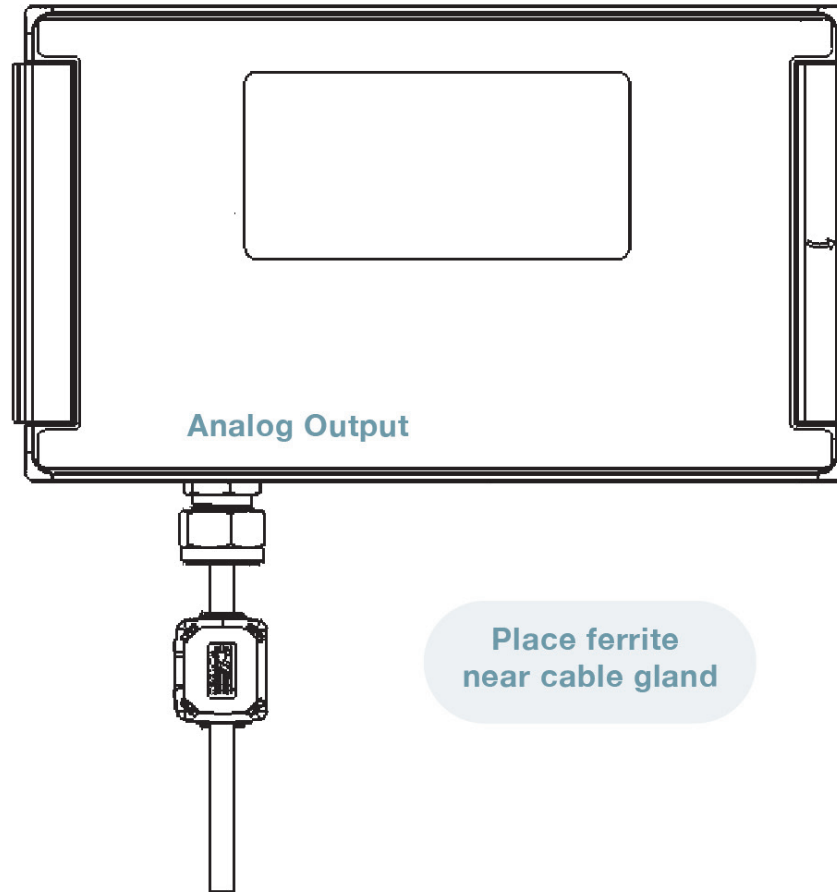

Figure 13: Ferrite Installation
3. To meet EMC regulations, a ferrite bead is required on the analog output cable. Refer to Figure 13 for installation instructions.